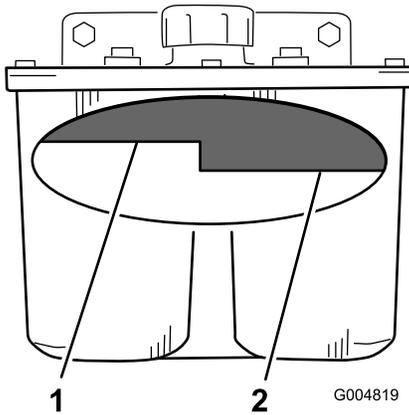

Figure 98
- Clean the area around the filler neck of the hydraulic tank (Figure 98).
- Remove the cap from the filler neck and look inside to check if there is fluid in the reservoir (Figure 98).
Note: The fluid level should be to the top of the hot level of the baffle, when the fluid is hot (Figure 98).